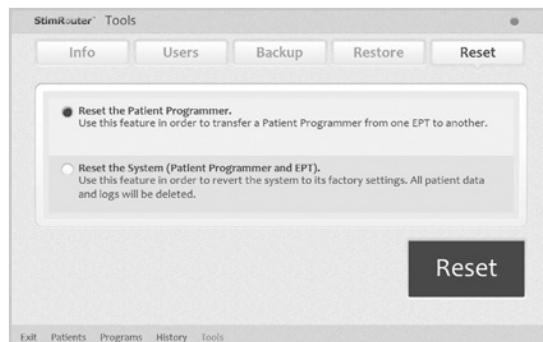

Figure 11-1: Resetting the Patient Programmer and EPT
2. Press “Tools” on the Menu Bar, then press the Reset Tab. See Figure 11-1.